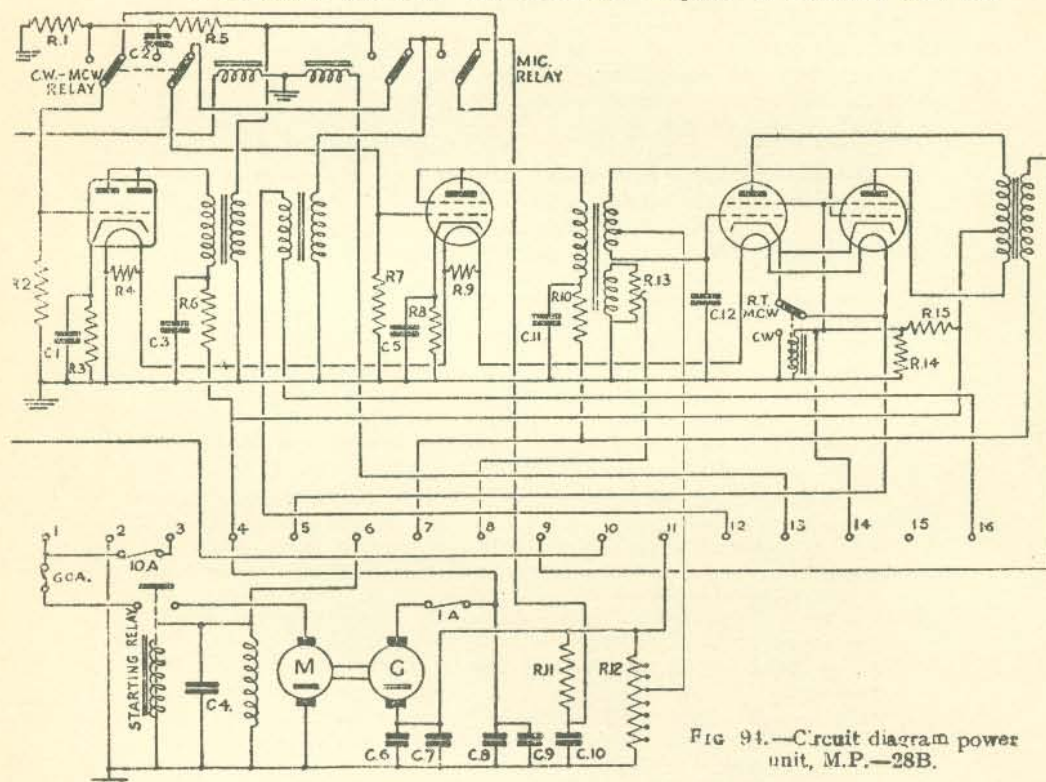

FIG 94.—Circuit diagram power unit, M.P.-28B.
4. **Modulator** (fig. 94).—The modulator amplifier is mounted with the